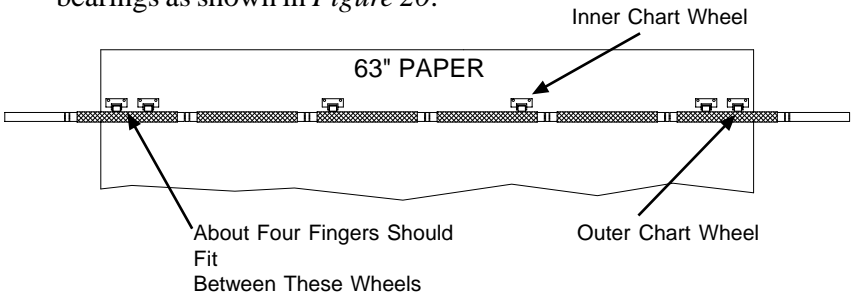

Figure 20. Positioning the chart wheels for 63" (160 cm) paper.
3. The inner chart wheels should be placed 1" (2.5 cm) from the bearings as shown in *Figure 20*.